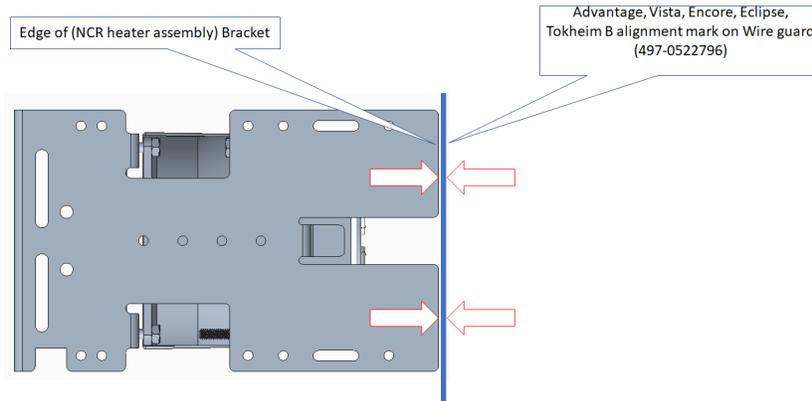
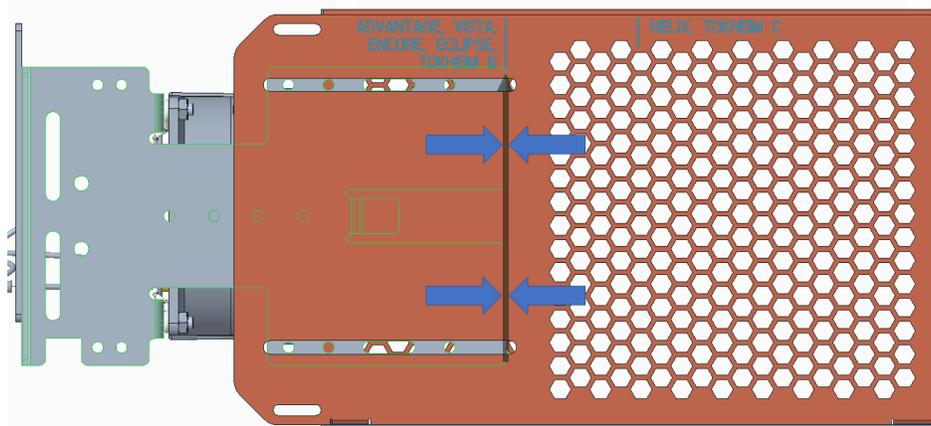

Figure 177
Figure 178
- 4) Slide the wire guard (497-0522796) around the NCR heater assembly so that the edge of the bracket aligns with the Advantage, Vista, Encore, Eclipse, Tokheim B alignment mark as shown in Figure 177 and Figure 178.